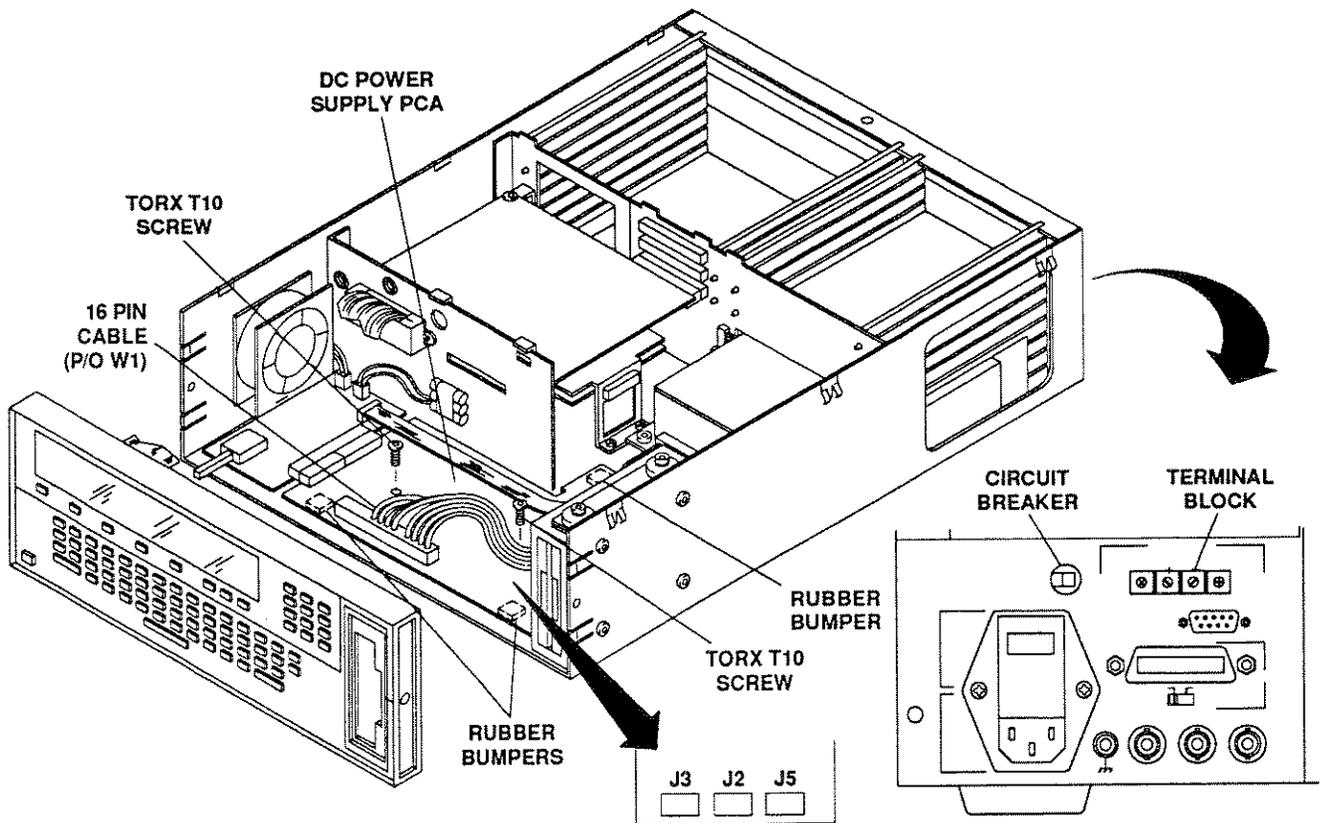

Figure 8-16. Remove and Replace Optional DC Power PCA
3. Carefully disconnect the following wires/cables (see Figure 8-16):
5. Carefully disconnect the following wires/cables (see Figure 8-16):
2. Carefully disconnect the following wires/cables (see Figure 8-16):